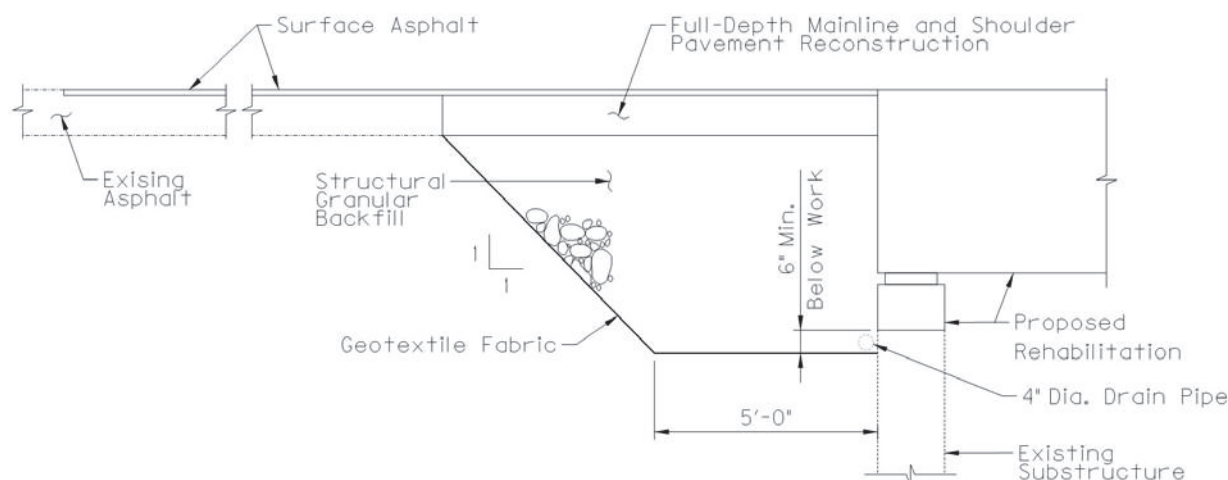

Figure 1: Detail showing proposed work for deck and superstructure replacements
- A. Foundation Preparation.** For projects involving the removal and replacement of the asphalt and backfill behind the new abutments or end bents, the required excavation, Type IV geotextile fabric, 4" perforated pipe, and new backfill shall be constructed as shown in Figure 1 as well as any excavation and grading needed to shape the bridge approaches to match the existing roadway template. See Special Provision 69 and the Standard Drawings regarding additional construction details as required.